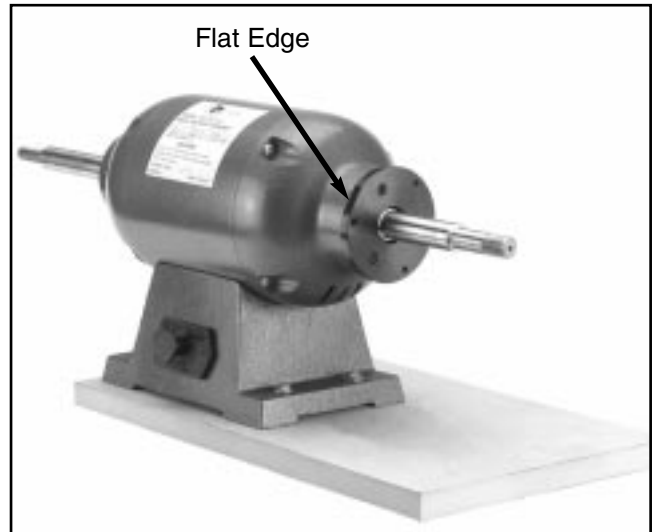

Figure 5. Mounting spacer to end bell.
1. Secure the round mounting spacer to the end bell of the motor using three (3) $\frac{1}{4}$ " - 20 x $\frac{1}{2}$ " cap screws. **See Figure 5.** Make sure the cap screws go into the countersunk side of the spacer plate. The flat edge of the spacer should be positioned at the 10 o'clock position if you are looking directly at the end of the motor.